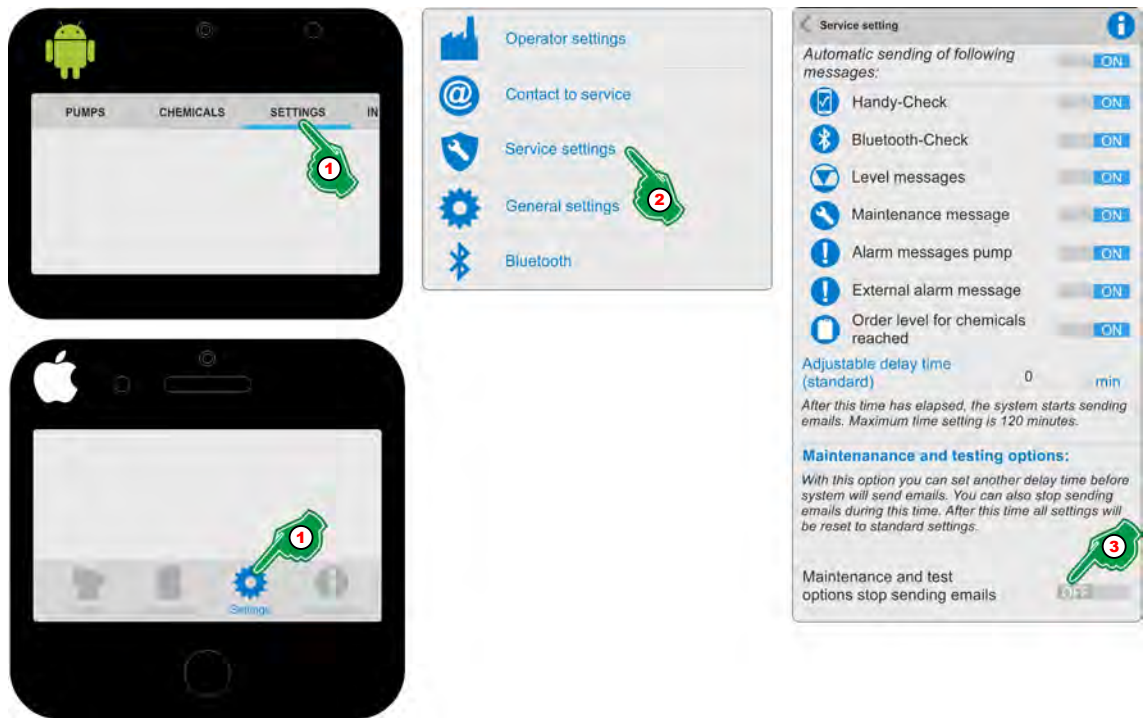

Fig. 53: ‘Adjustable delay time’
1. ➤ Select [Settings] (Fig. 53, Pos. 1).
2. ➤ Select [Service Settings] (Fig. 53, Pos. 2).
3. ➤ ‘Maintenance and testing options’ (Fig. 53, Pos. 3) **ON**.